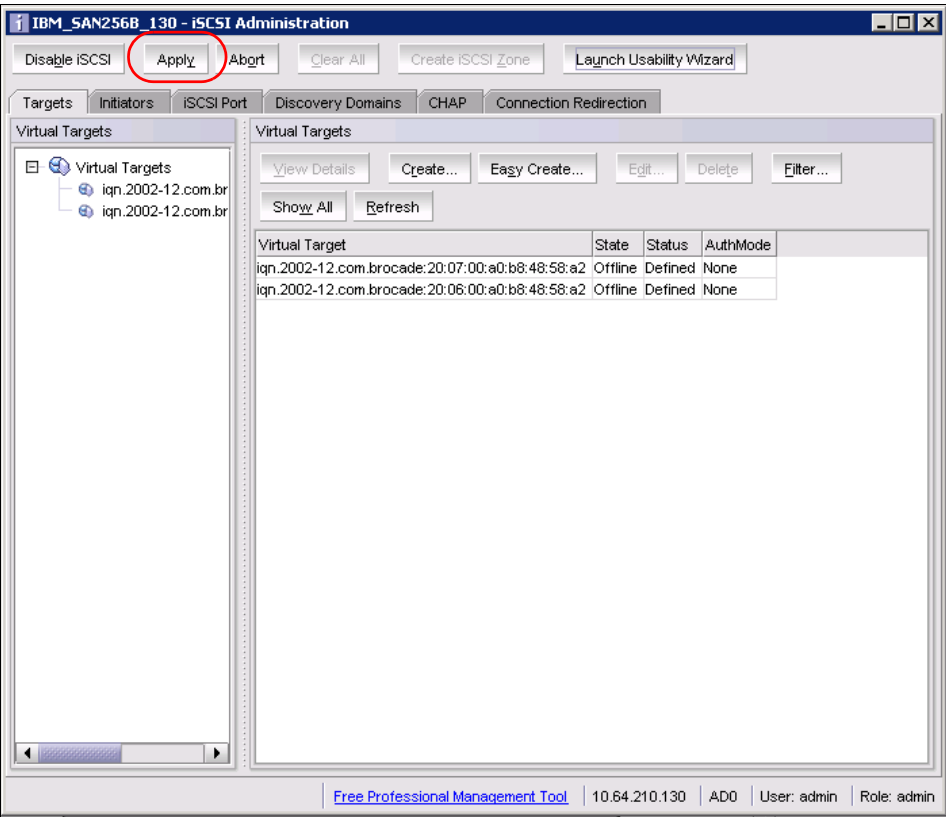

Figure 11-39 Apply changes to iSCSI configuration
16.This completes the iSCSI Launch Usability Wizard. Return to the port view of the iSCSI administration main page (Figure 11-39). For the configuration created by the wizard to become effective, click **Apply**.